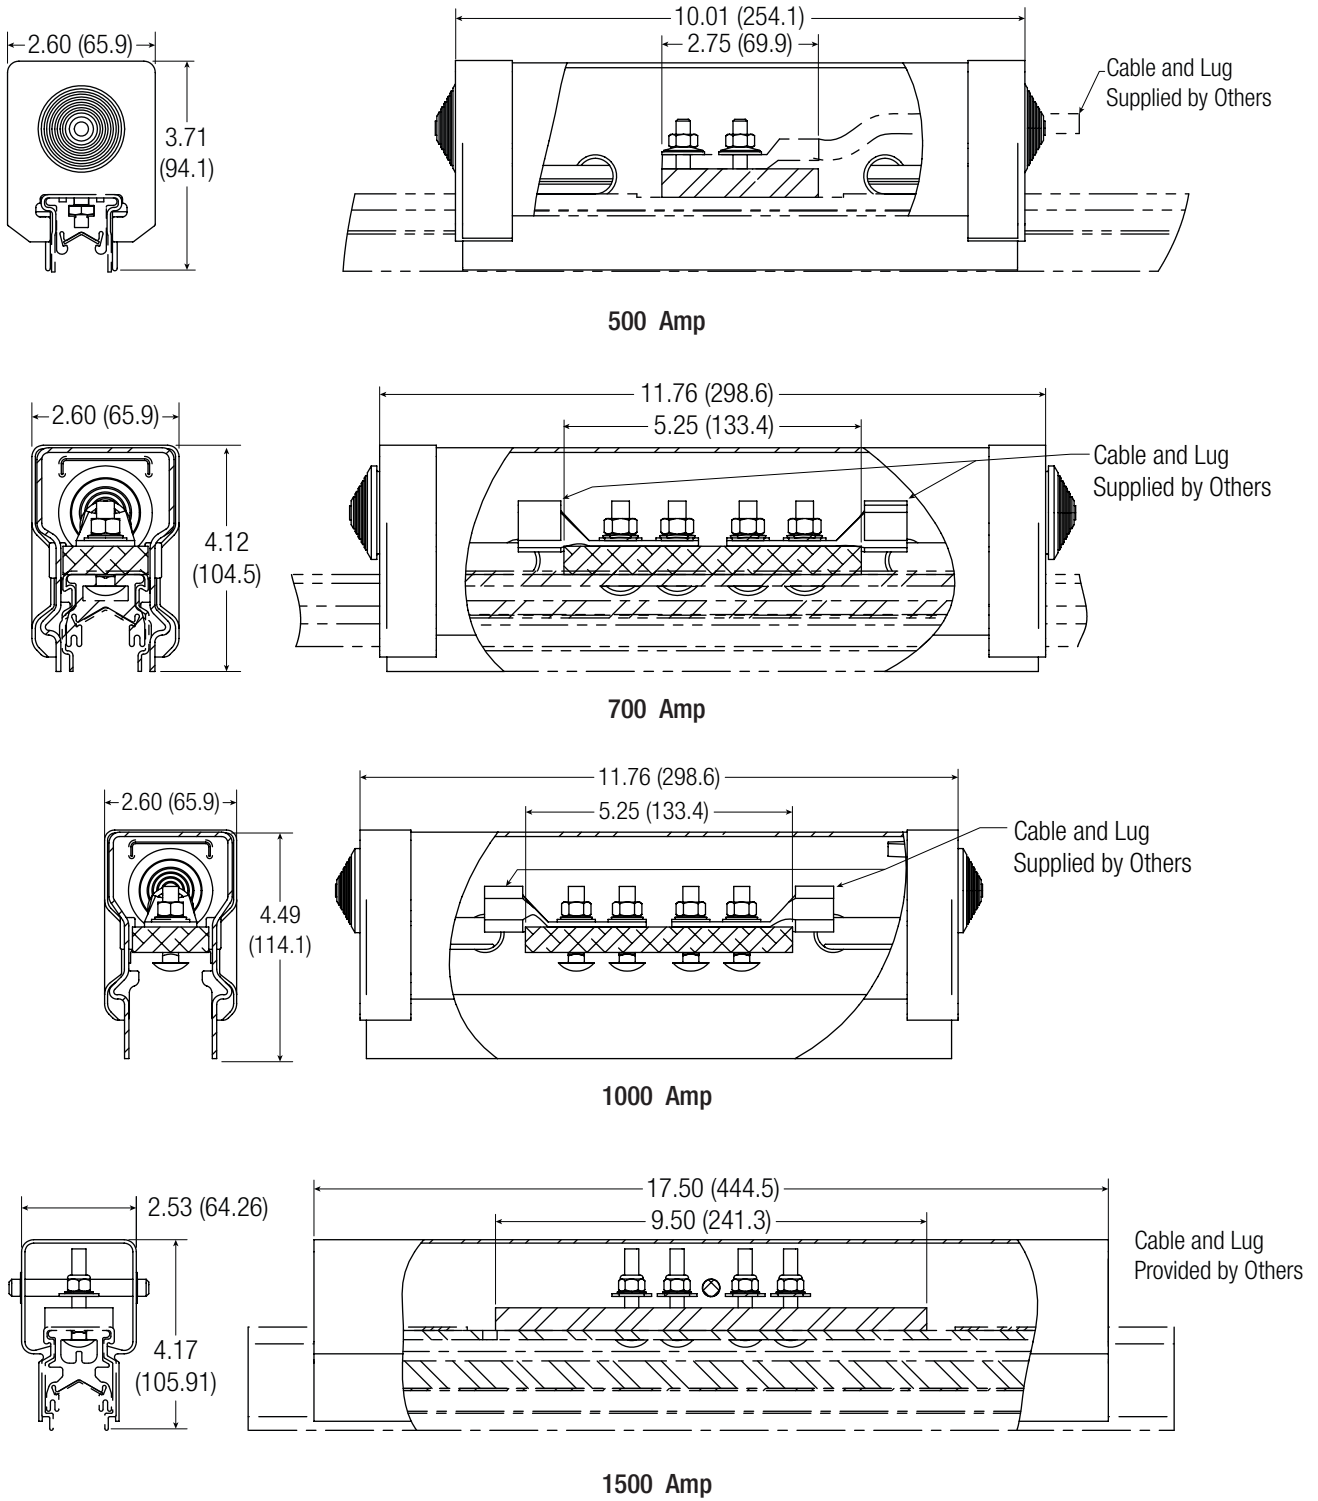

Figure 11-1
- An example of a 500 Amp power feed assembled can be seen in **Figure 11-1**.